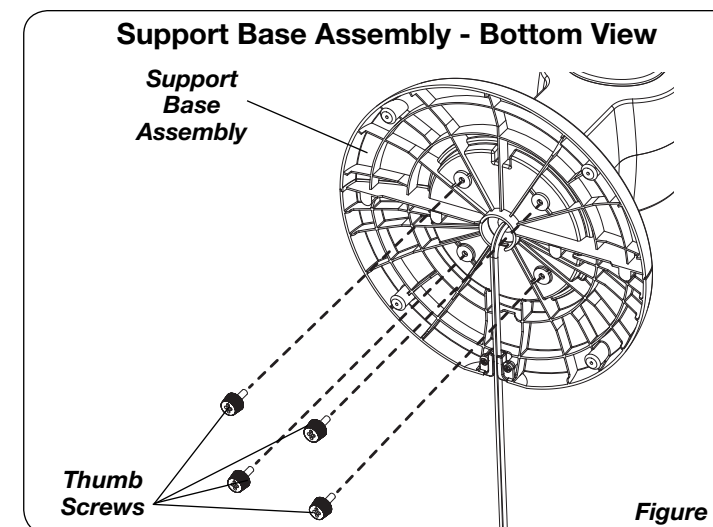

Figure 2
- Secure the (4) **thumb Screws** into the four holes in the bottom of the base. (*Figure 2*)